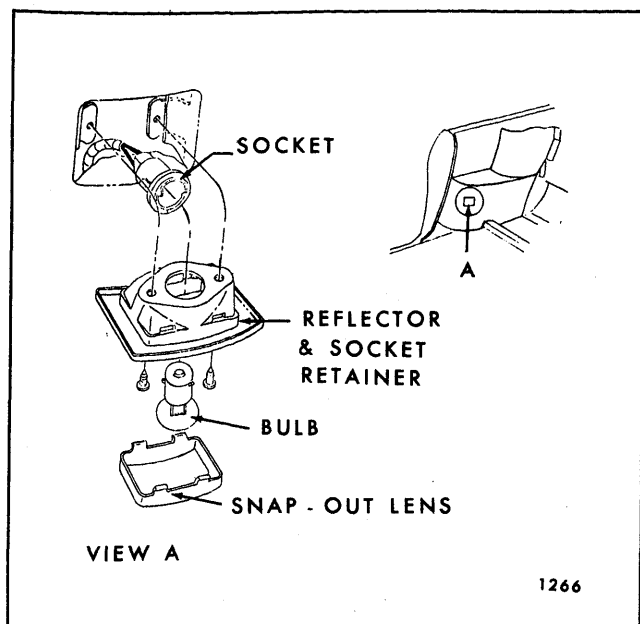

Fig. 8-8—Rear Quarter Arm Rest Courtesy Lamp
**NOTE:** On styles equipped with rear quarter lamp assemblies, disconnect lamp as shown in Figure 8-8.